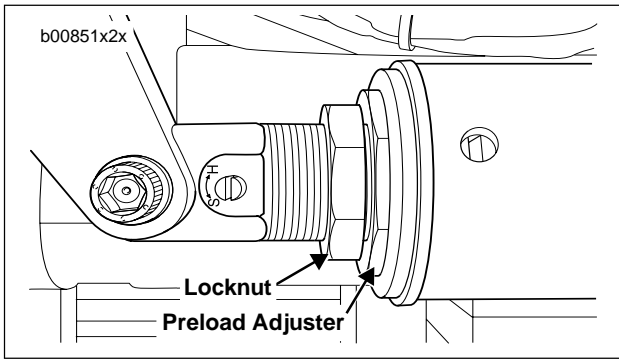

Figure 1-31. Rear Shock Preload Adjustment
2. See Figure 1-31. To adjust shock preload, loosen the locknut and turn the preload adjuster at the end of the shock to move the canister towards the front or rear of the motorcycle.